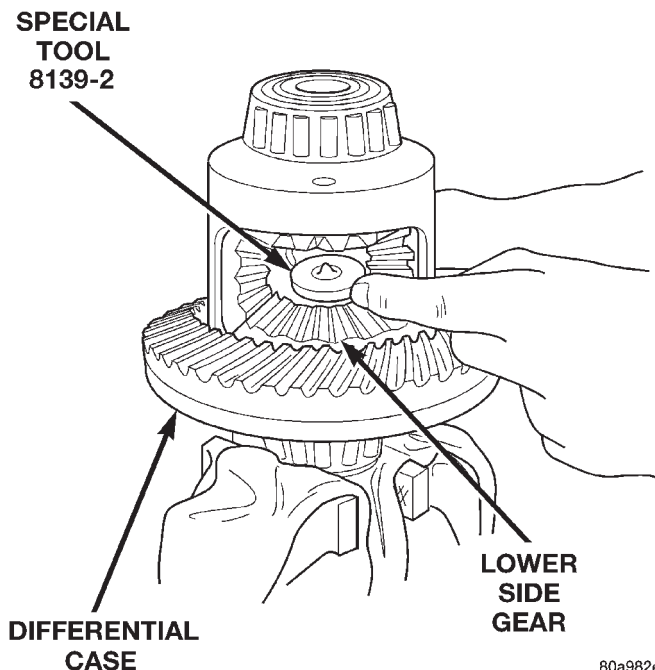
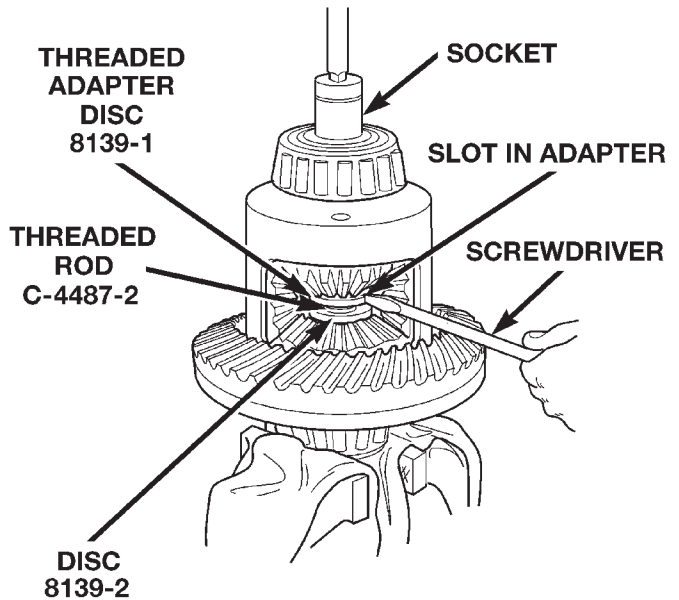

Fig. 58 Step Plate Tool Installation
Fig. 59 Threaded Adapter Installation
- (6) Install and lubricate Step Plate 8139-2 (Fig. 58).
- (7) Assemble Threaded Adapter 8139-1 into top side gear. Thread Forcing Screw C-4487-2 into adapter until it becomes centered in adapter plate.
- (8) Position a small screw driver in slot of Threaded Adapter 8139-1 (Fig. 59) to prevent adapter from turning.